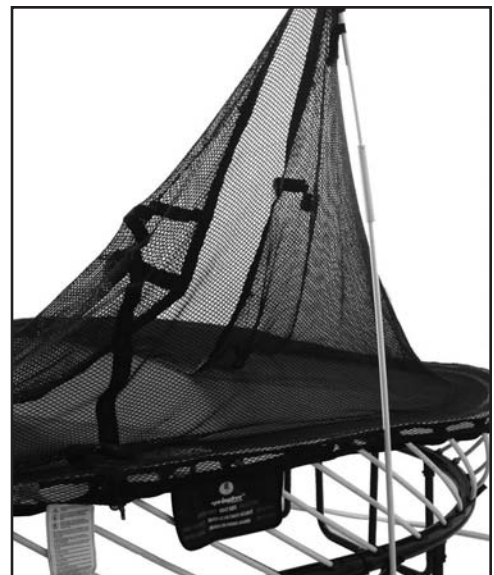

Figure 18: Inserting an enclosure rod into a pocket
* **NOTE:** Ensure the rod is pushed right to the end of the pocket. Unless you do this, the internal catch cannot prevent the rod from coming out during use. (Figure 18).